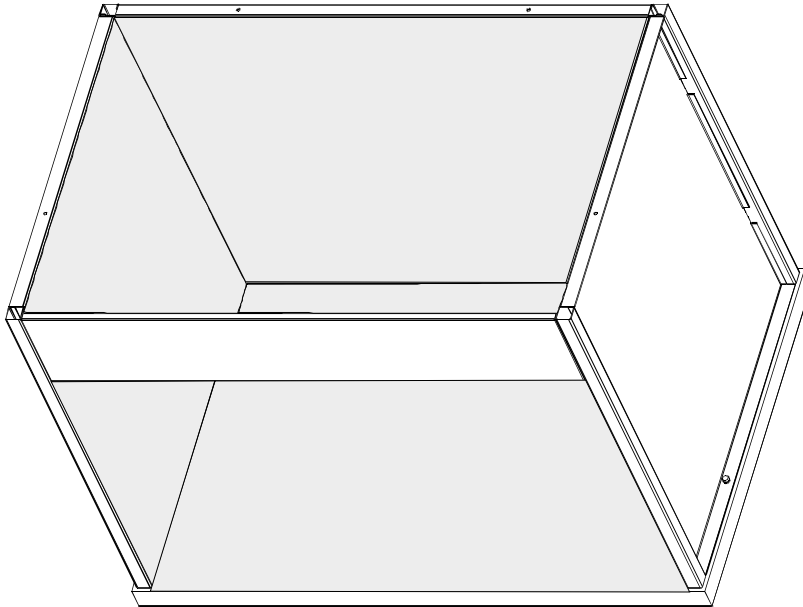

Figure 6. SpectraLight III Viewing Booth
10. The Spectralight Booth is now fully assembled. See Figure 6.